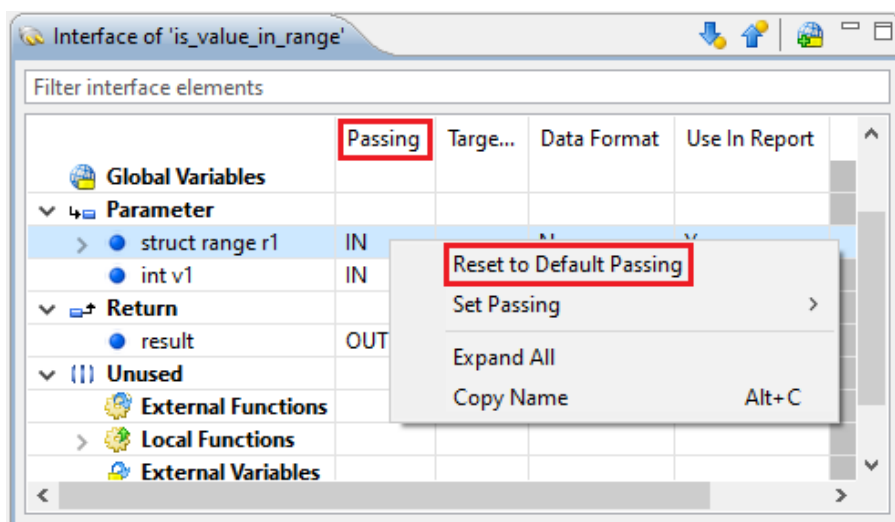

Figure 6.154: Resetting passing directions
- Select the respective section and click “Reset to Default Passing” from the context menu (see figure 6.154).